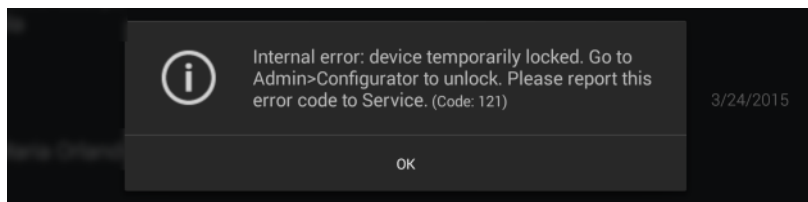

Fig. 16 – Example of error message
- Federal laws (US) restrict this device to sale by or on the order of a physician or a properly licensed practitioner.
- In case an unexpected hardware condition occurs during use, an error message may appear (see for example Fig. 16) and COMPASS may become temporarily locked. It is possible to reset this condition by letting the device re-initialize: refer to par. 14.2 for the complete procedure. If the error condition persists, please contact an authorized service center.